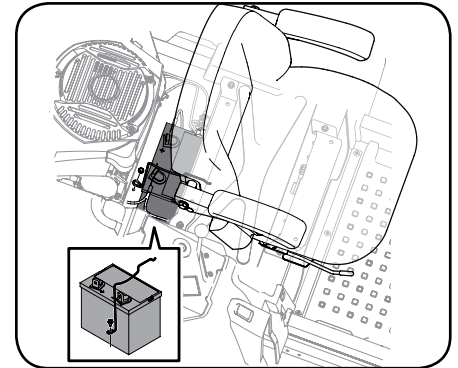

Figure 4-6
2. Remove the hex washer screw securing the battery hold-down bracket to the frame. Then flip the battery hold-down bracket up to free the battery. See Figure 4-6